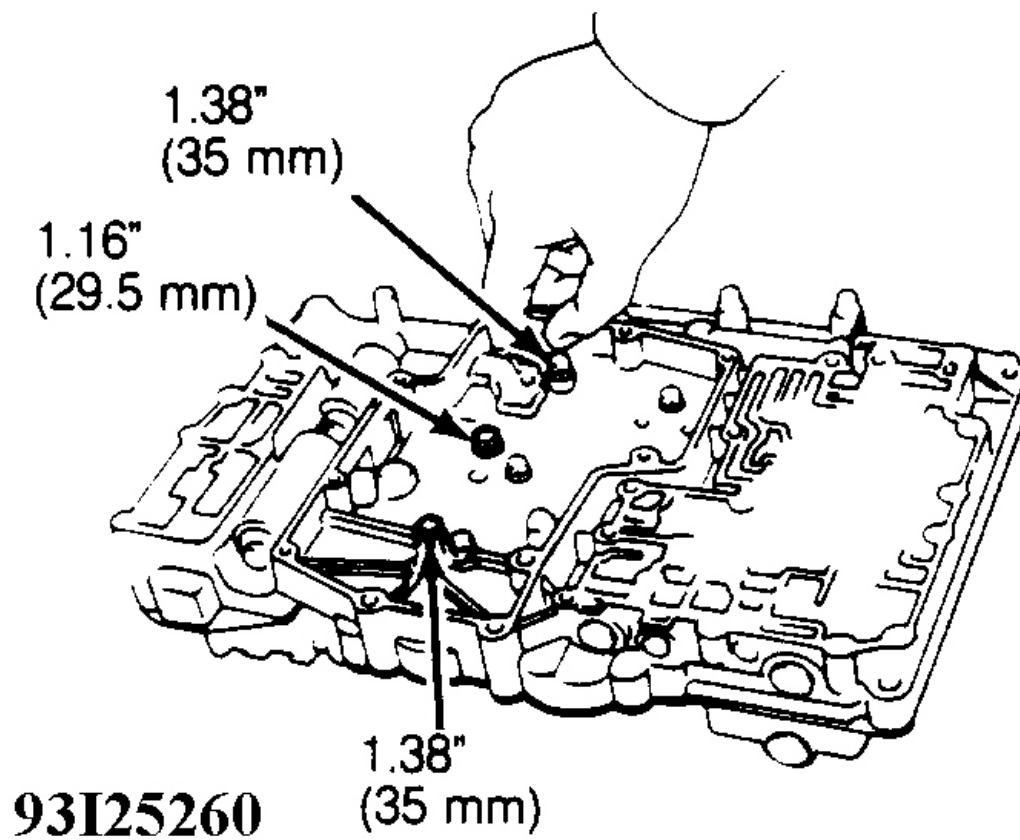

Fig. 48: Locating Valve Body Bolts (2 Of 3)
3. Remove 2 temporary installed bolts. Position lower valve body on front upper valve body. Temporarily install 3 wave washers and bolts. See **Fig. 48** .